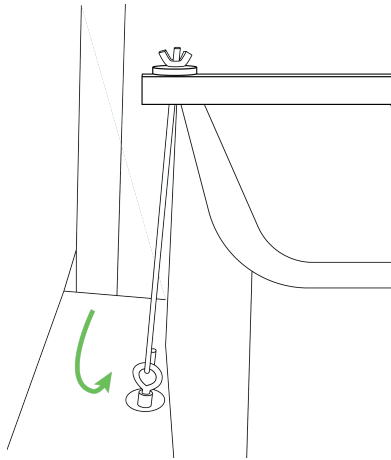

Figure 6-16. J-hook looped around one of the eyebolts
4. Swing the metal assembly over the printer and loop the J-hooks through the installed eyebolts on the floor of the printer compartment, on either side of the printer (Figure 6-16).